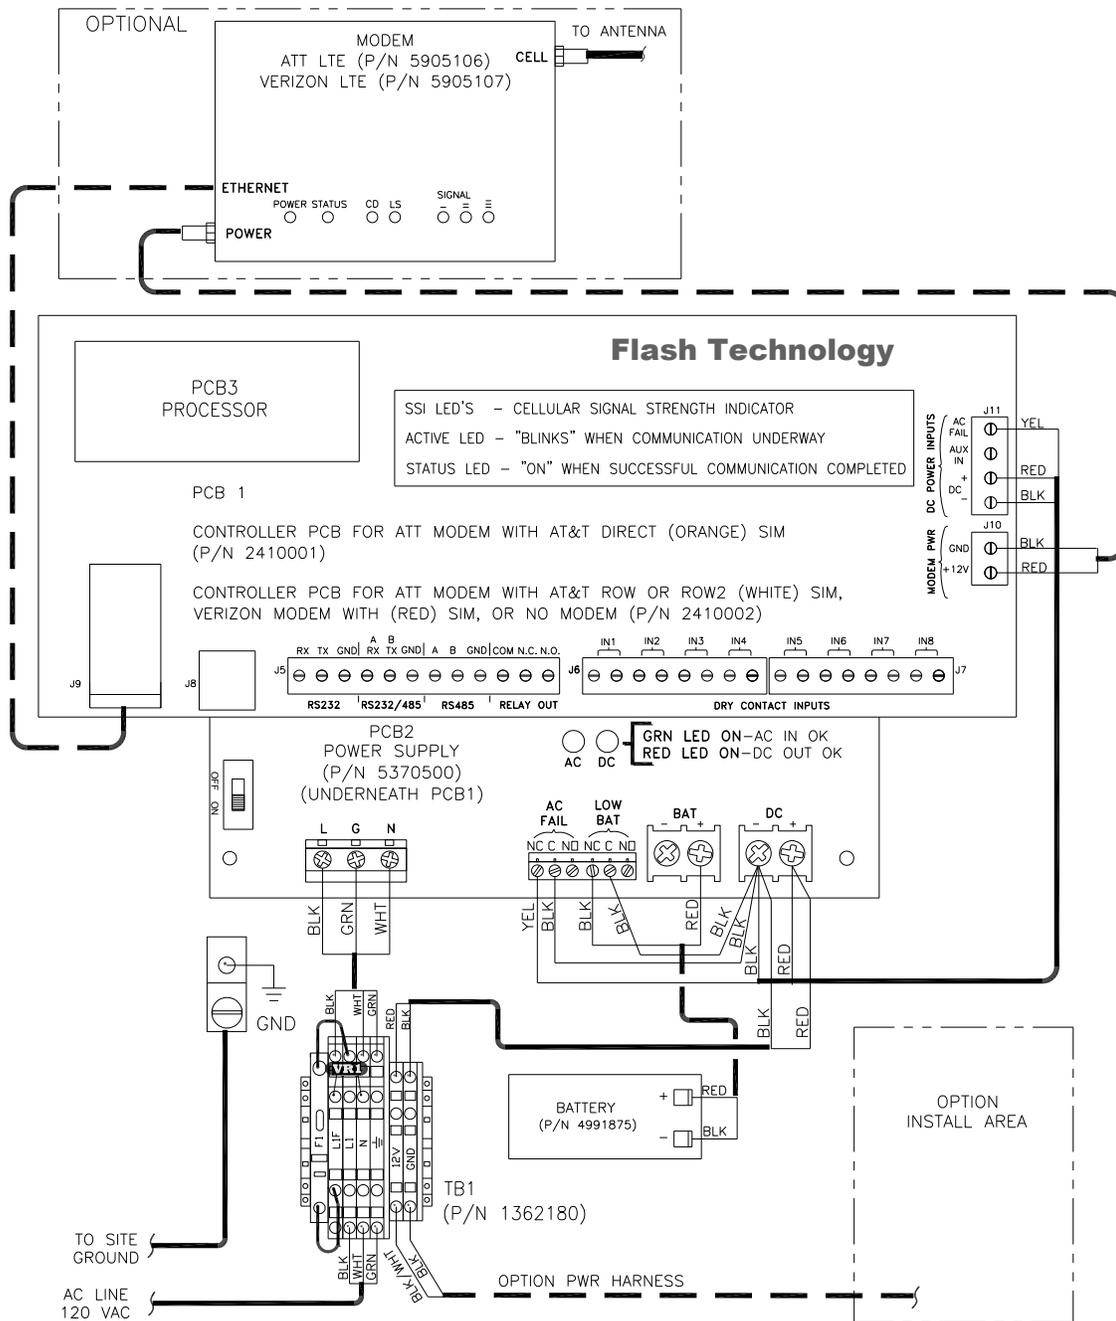

Figure 2-1 – FTM 190-3 Internal Wiring
The internal wiring of the unit is shown in Figure 2-1. A component location diagram is shown in Figure 6-1. The dry contact inputs are located on J6 and J7 of PCB 1 (PN 2410000) as shown in Figure 2-5.
Figure 2-1 shows an internal wiring diagram of the unit with the input power connections on TB1. Temporarily apply 120 VAC to the unit at TB1 terminals “L1”, “N”, and  $\perp$ . The LEDs located on PCB1 will illuminate during the initialization process. Up to two minutes may be required for signal strength indication to occur on PCB1. The Signal Strength Indicator LEDs labeled “SSI” (see Figure 2-5) will light up to indicate the strength of the available signal. After a wireless signal is found, the unit will attempt to connect to the NOC. While
**Note:** LED indicators on the modem provide further details on cellular connection. See Figure 2-1 “Modem LED’s” table for a description of each LED.
lower left of the unit. Also located on TB1 is a Metal Oxide Varistor (VR1) and a fuse (F1). The incorporation of VR1 and F1 on TB1 provides increased protection against AC power transients. The F1 fuse holder also acts as a power disconnect to the unit. Grasp the fuse holder at the top and pull down to disconnect power. Connect 120 VAC power to terminal block TB1 (L1, N,  $\perp$ ) as shown in Figure 2-1.
To provide increased immunity from lightning damage to the FTM 190-3, it is essential that the Ground Lug located in the lower left corner of the baseplate (Figure 2-1) be properly connected by a No. 2 AWG conductor to the site Grounding System. Observe proper grounding procedures.